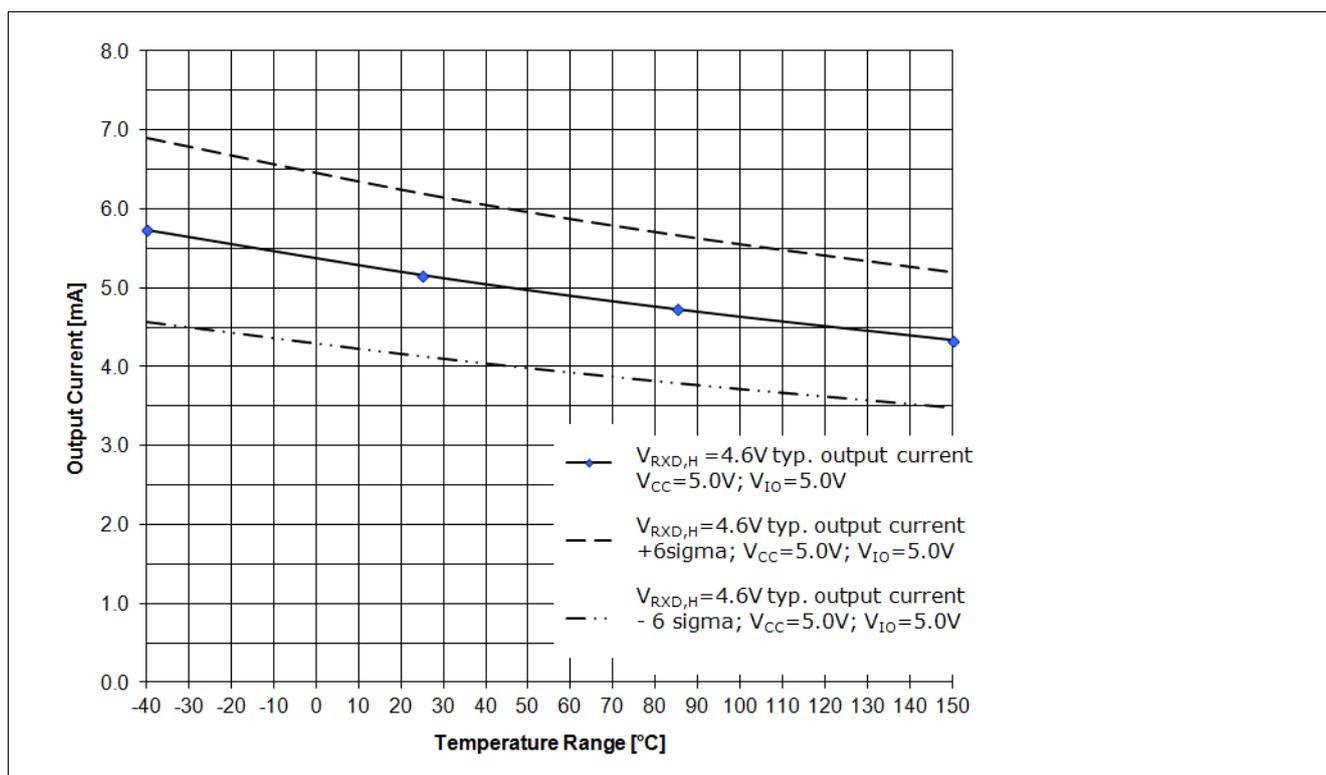
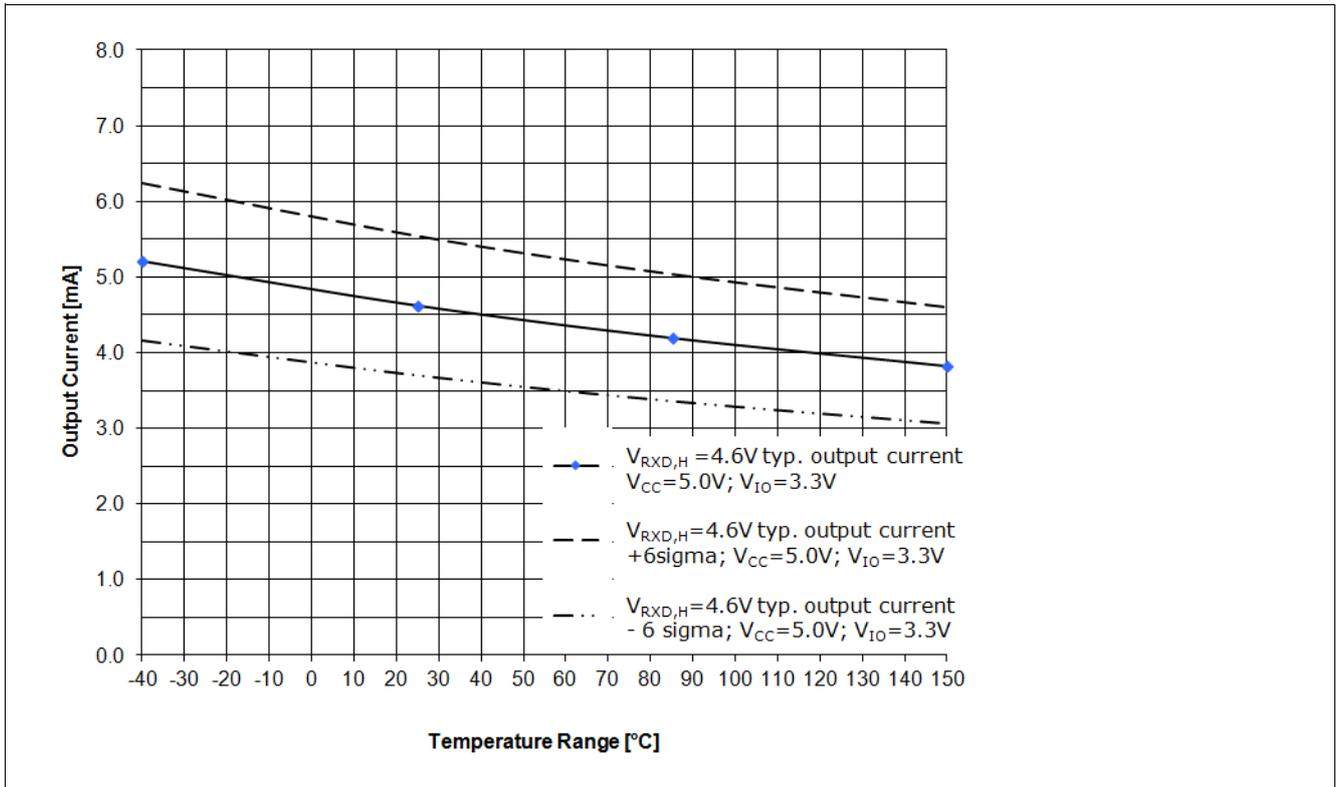

Figure 11 RxD Output driver capability for a logical “High” signal $V_{RxD,H}=4.6\text{ V}$, $V_{CC}=5.0\text{ V}$, $V_{IO}=5.0\text{ V}$ ¹⁾
Figure 12 RxD Output driver capability for a logical “High” signal $V_{\text{RXD,H}}=4.6\text{ V}$, $V_{\text{CC}}=5.0\text{ V}$, $V_{\text{IO}}=3.3\text{ V}^1$
The diagram in Figure 11 shows the output current capability of the RxD output pin depended on the chip temperature T_J at a V_{IO} power supply of 5.0 V. Figure 12 shows the output current capability of the RxD output pin at a V_{IO} power supply of 3.3 V.
- The curve “VRxD,H = 4.6 V; typ. output current; VCC = 5.0 V; VIO =5.0 V;” displays the typical output current at the RxD output pin of the TLE8250GVIO (see Figure 11).
- The curve “VRxD,H = 4.6 V; typ. output current + 6 sigma; VCC = 5.0 V; VIO =5.0 V;” displays the expected maximum value of the output current at the RxD output pin (see Figure 11).
- The curve “VRxD,H = 4.6 V; typ. output current - 6 sigma; VCC = 5.0 V; VIO =5.0 V;” displays the expected minimum value of the output current at the RxD output pin (see Figure 11).
- The curve “VRxD,H = 4.6 V; typ. output current; VCC = 5.0 V; VIO =3.3 V;” displays the typical output current at the RxD output pin of the TLE8250GVIO (see Figure 12).
- The curve “VRxD,H = 4.6 V; typ. output current + 6 sigma; VCC = 5.0 V; VIO =3.3 V;” displays the expected maximum value of the output current at the RxD output pin (see Figure 12).
- The curve “VRxD,H = 4.6 V; typ. output current - 6 sigma; VCC = 5.0 V; VIO =3.3 V;” displays the expected minimum value of the output current at the RxD output pin (see Figure 12).